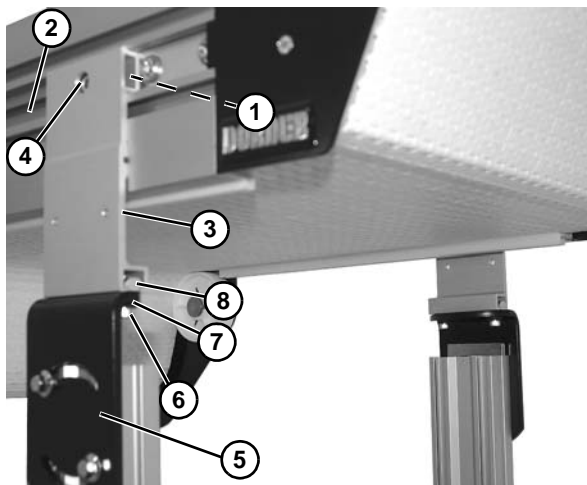

Figure 9
3. Insert nut (Figure 9, item 1) into conveyor side slots (Figure 9, item 2). Fasten brackets (Figure 9, item 3) to conveyor with mounting screws (Figure 9, item 4).
4. Fasten brackets to support stand bracket (Figure 9, item 5) with mounting screws (Figure 9, item 6), washers (Figure 9, item 7) onto T-bar (Figure 9, item 8).
5. Tighten screws (Figure 9, item 4 & 6) to 60 in-lb (7 Nm).